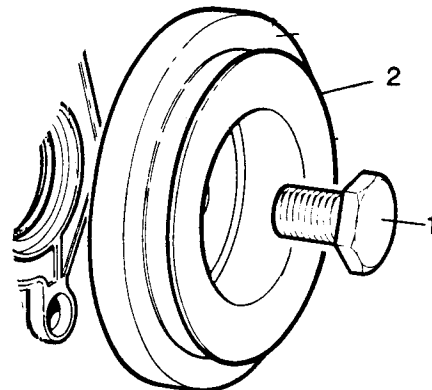

Fig B4.99
(7) Refer to Fig B4.99. Remove the harmonic balancer bolt (1) and pull the crankshaft pulley (2) away.
(8) Remove the camshaft cover (see Sub-section B4, Chapter 11).